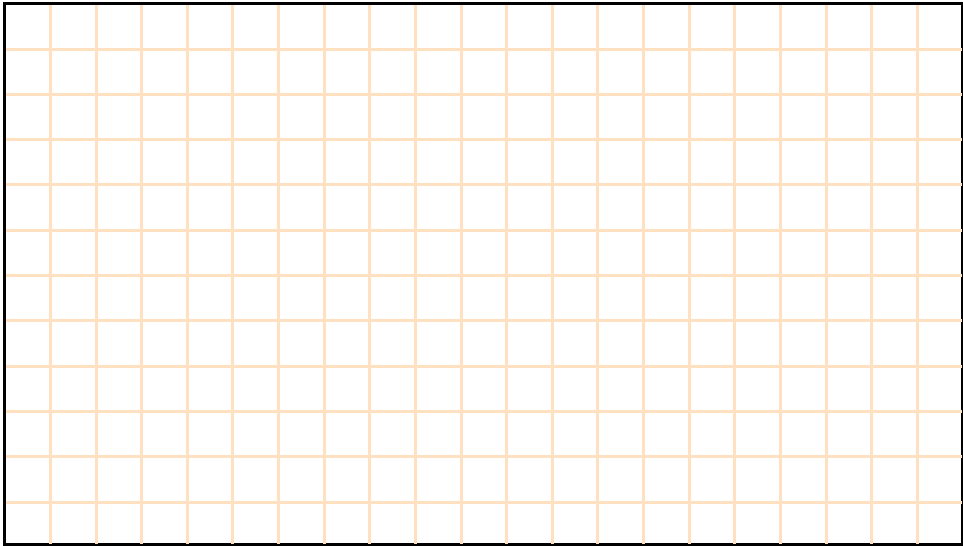
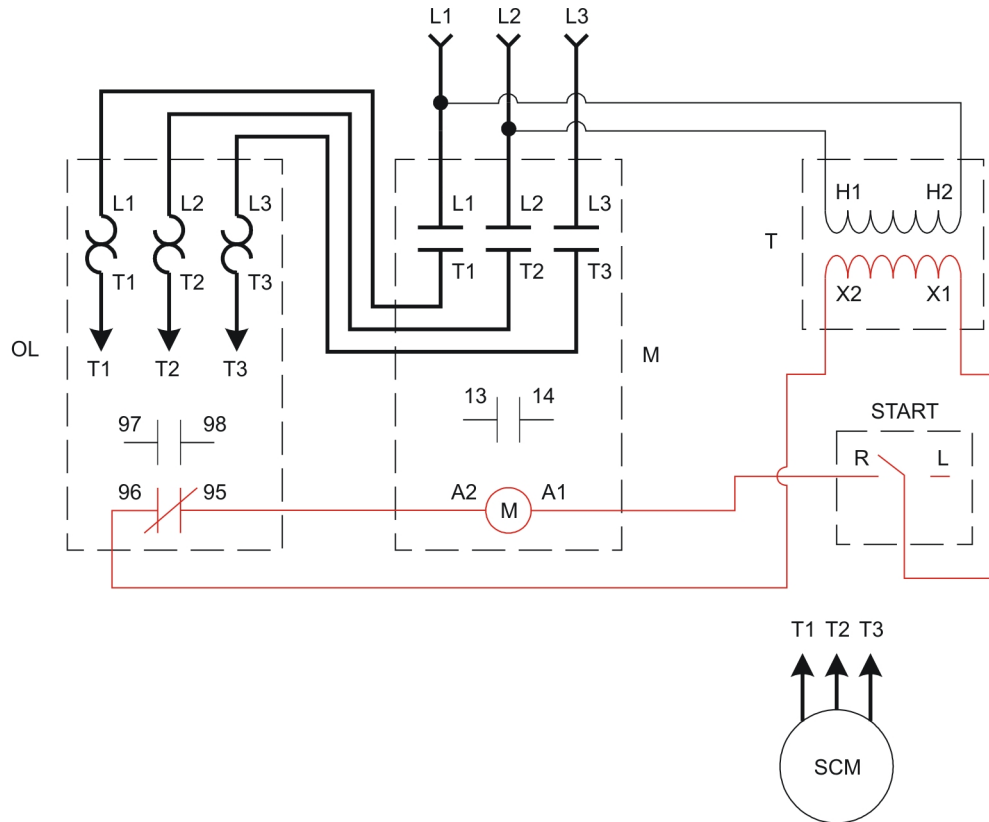

Figure 2-9. Schematic diagram of the Figure 2-10 wiring diagram.
Figure 2-10. Wiring diagram.
- 4. Draw, in Figure 2-9, the schematic diagram of the wiring diagram shown in Figure 2-10.